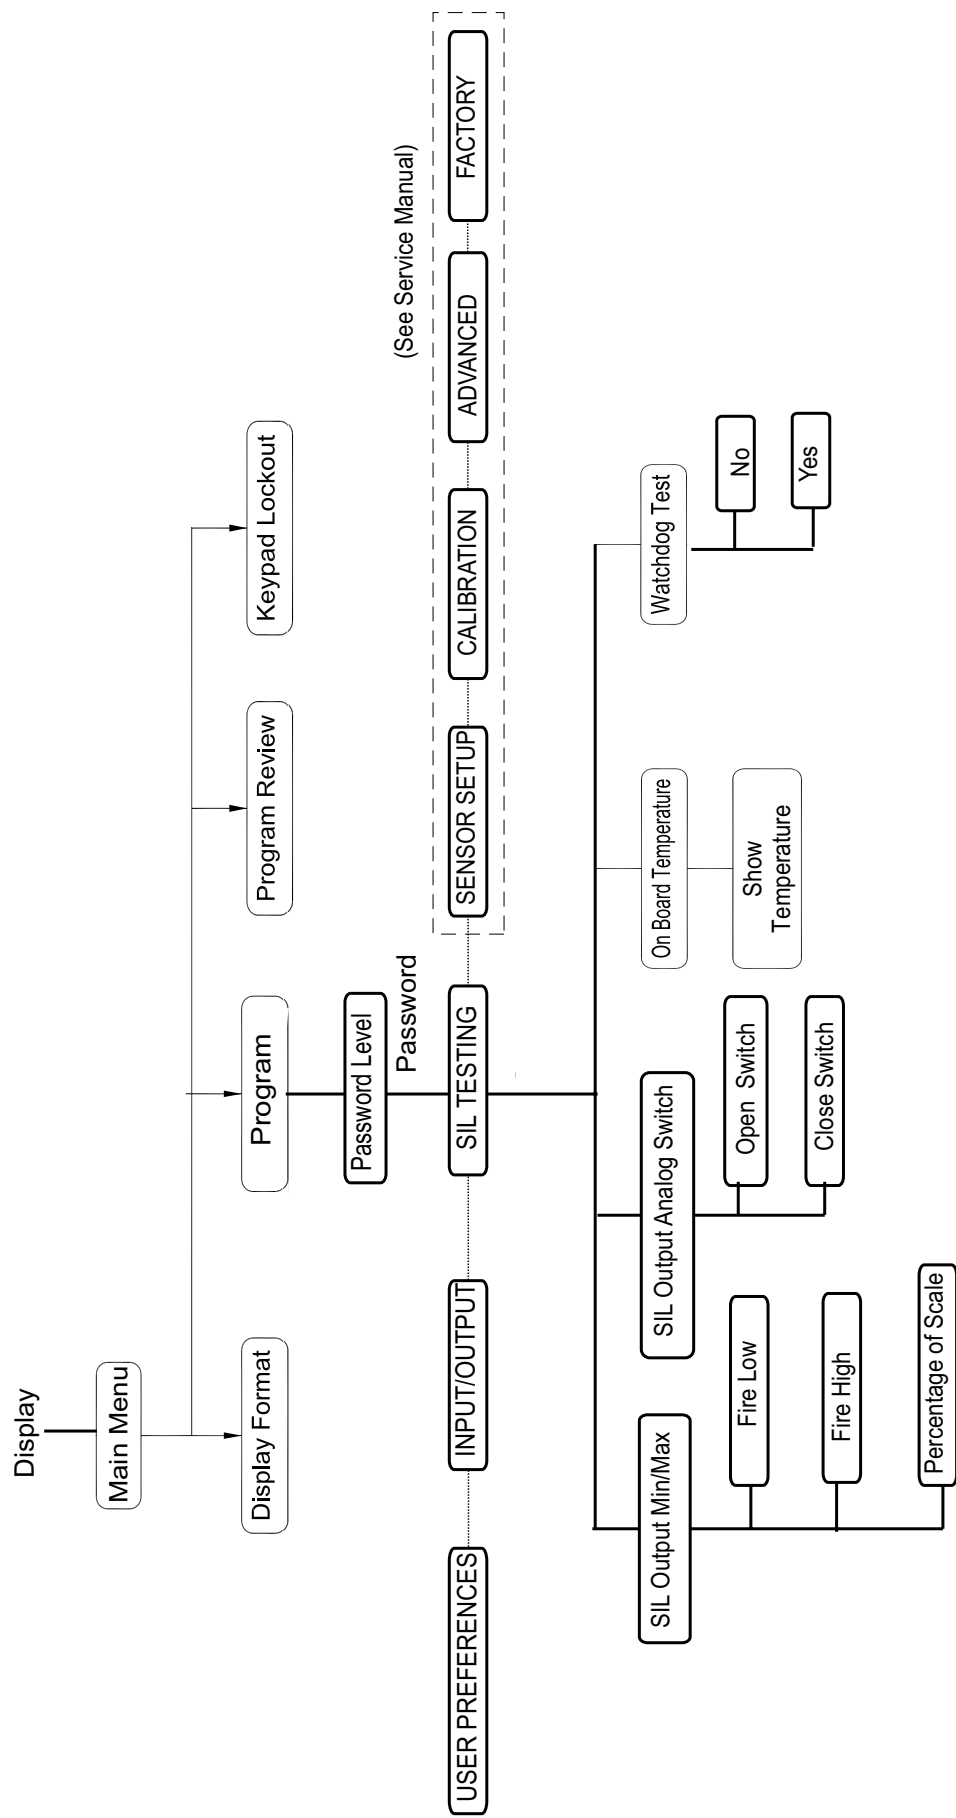

Figure 33: SIL Testing Menu Map
- Figure 33, “SIL Testing Menu Map,” on page 95